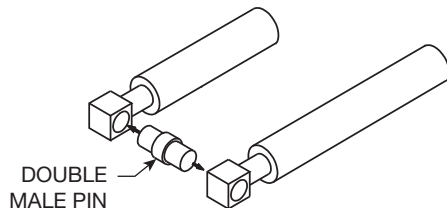

FIGURE 1
STEP 2 Insert double male pin between two female disconnects. (FIGURE 1)